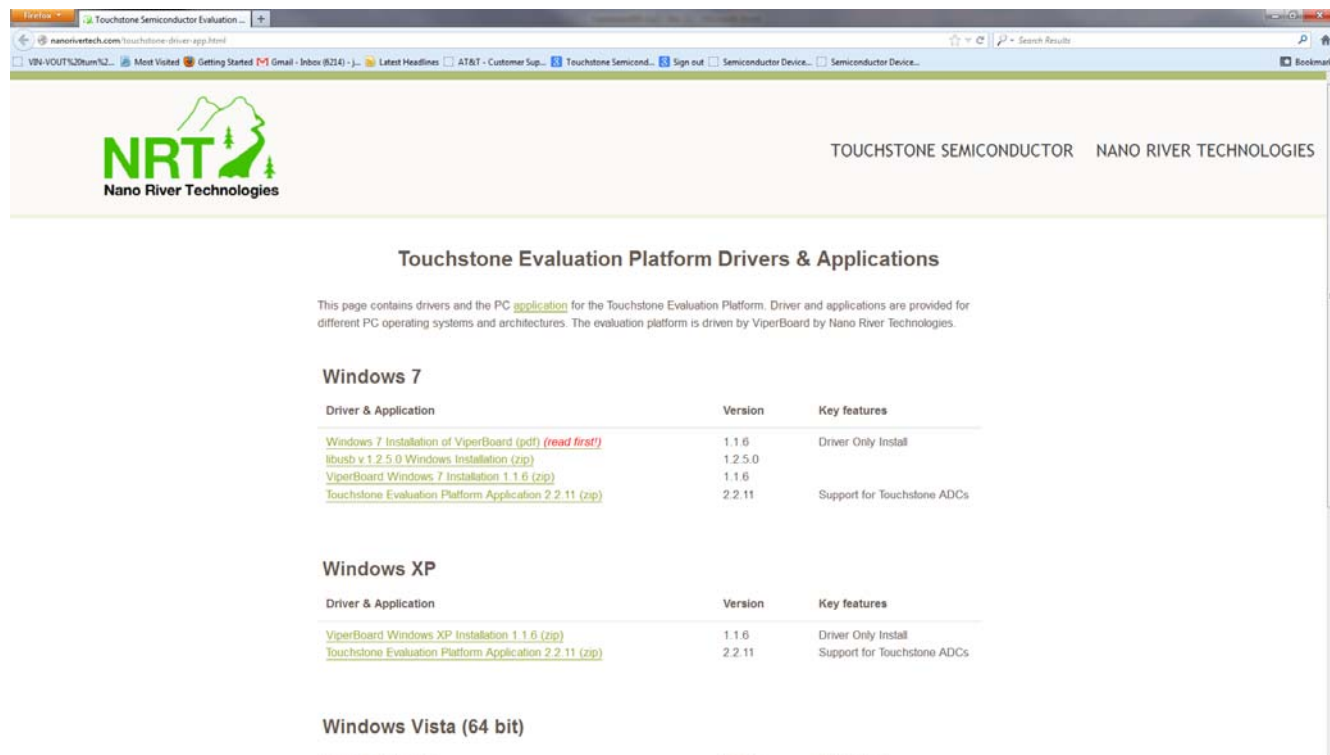

Figure 3. Viperboard Driver Installation Files Page
2. Refer to Figure 3. On this screen, select the driver installation link that is appropriate for the OS on your computer. If applicable, please read the PDF document titled "read first" in red font, which provides simple instructions on how to install the files. Note that every driver installation requires unzipping two files, namely "Viperboard Windows (your OS) Installation 1.1.6" and "libusb v.1.2.5.0 Windows Installation".